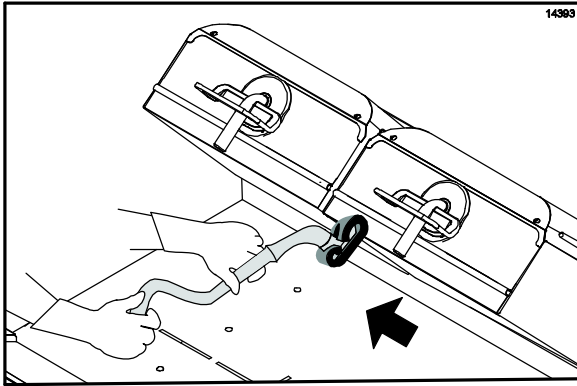

Figure 85
22. Using the Kay Grill Cleaning Pad Holder, scrub the front side of the platens from the right platen to the left platen. (See Figure 85.)